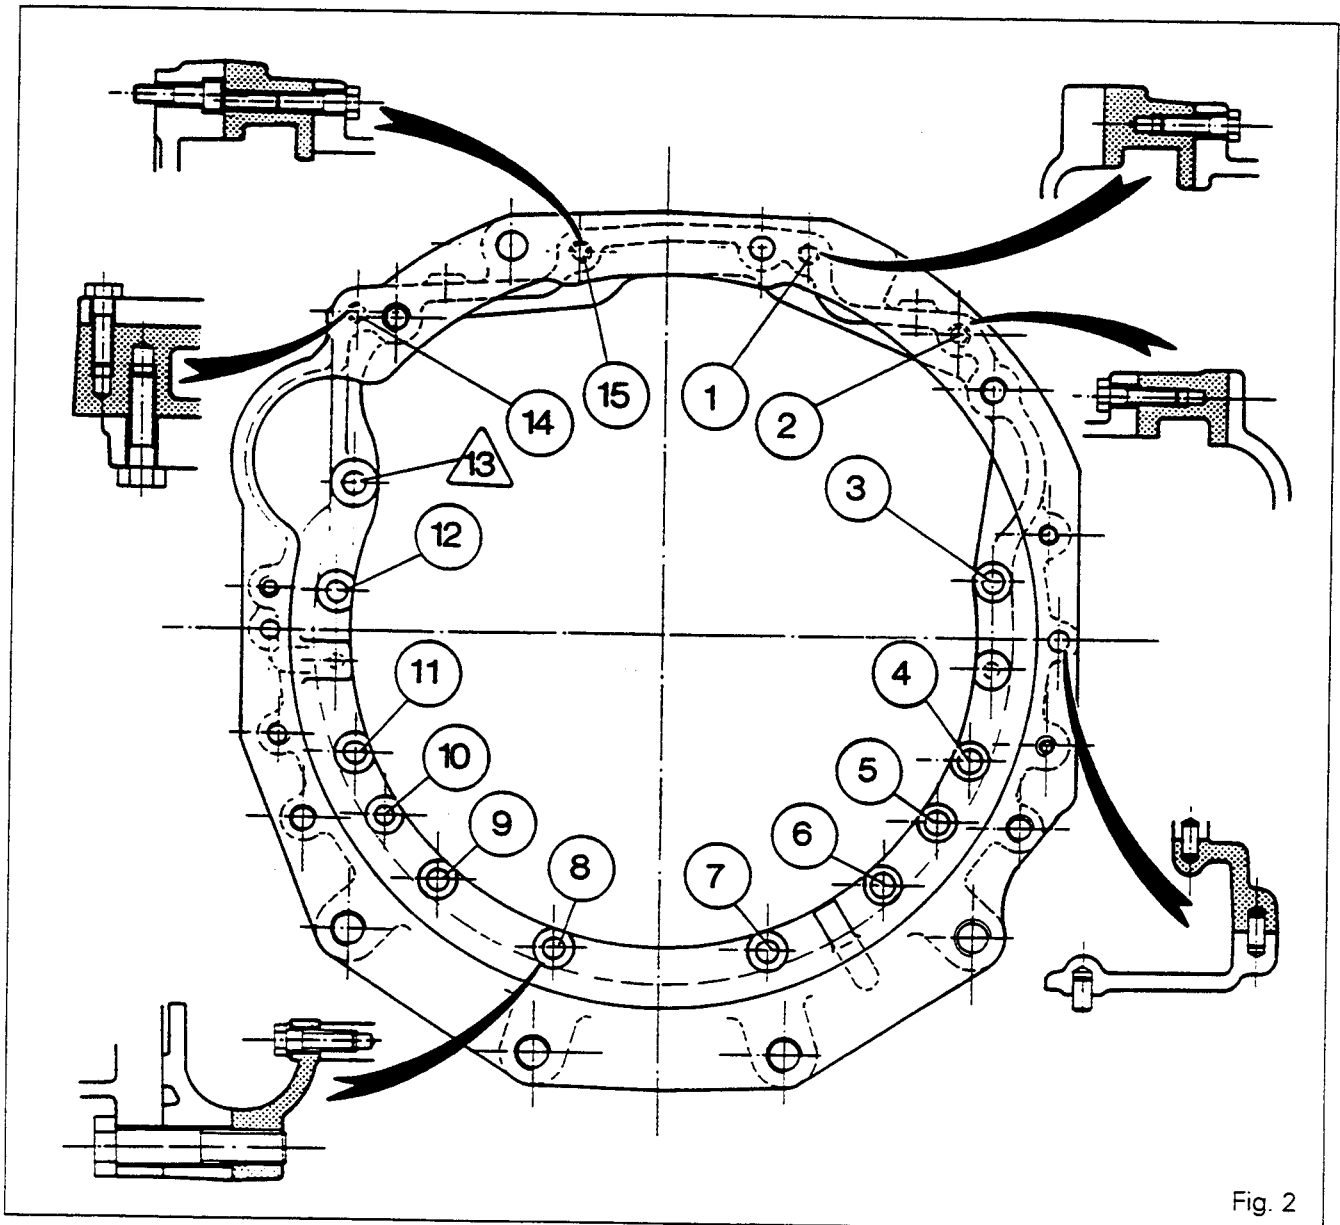

Fig. 2
- Note: The countersunk head bolt /13\ must be correctly positioned (Fig. 2).**